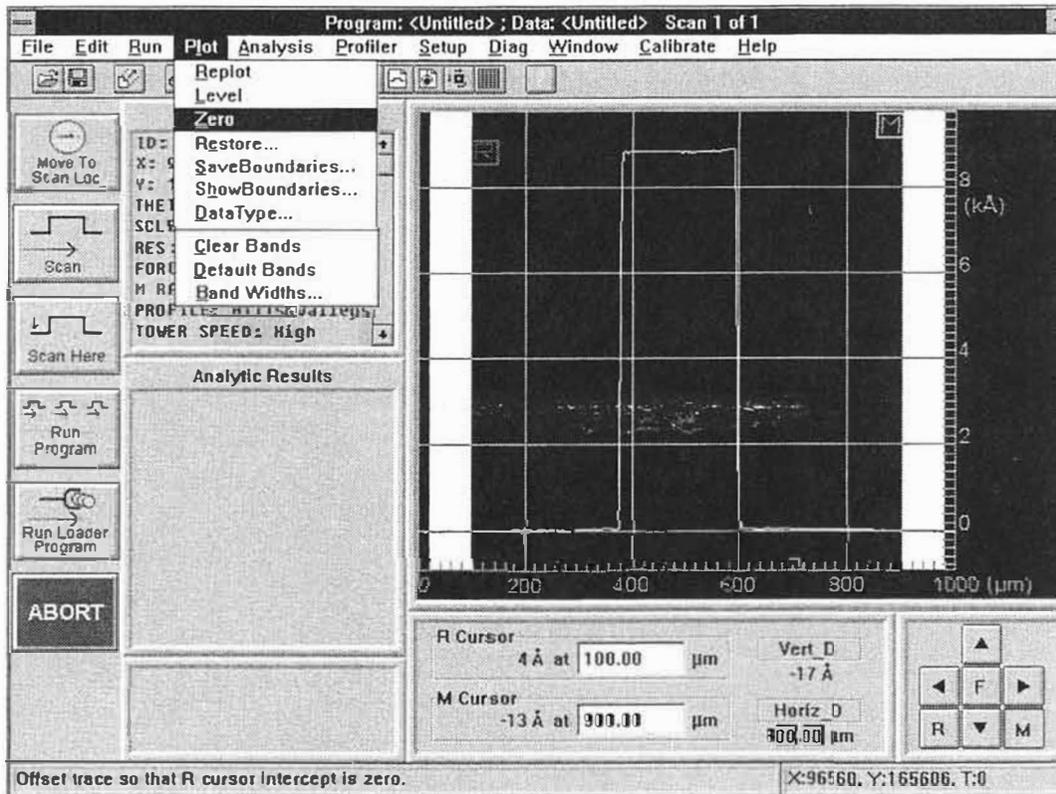

Figure 4-9. Setting the Zero Point
3. Click-on "Zero" from the Plot Menu. The profile trace will automatically be replotted and the zero point will be established at the R cursor intercept (see Figure 4-9).